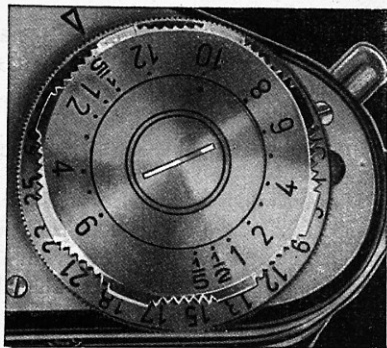

Fig. 12
The speed-setting knob (17) (Fig. 12) controls the exposure times longer than $1/25$ sec. The fractions of seconds (e. g. $1/5$ sec.) are indicated on this slow speed knob (17) as fractional numbers, while all the whole numbers mean full seconds (e. g. 1=1 sec., 2=2 secs., etc.). The black figures are for exposures immediately on release of the focal shutter. The red marks, however, signify that the shutter runs down about 13 seconds after releasing, the self-timer, in the meantime, permitting the photographer to step into the picture, making it possible to take a photograph of himself. The additional speed regulating mechanism and the self-timer of EXAKTA Varex II a function practically free from noise and have to be operated precisely according to the following instructions:
- a) Set the fast speed knob (8) on the opposite side of the Finder Hood on T or B.